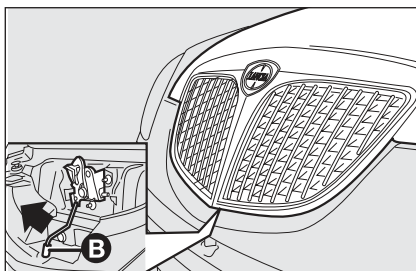

fig. 82
- move lever **B-fig. 82** leftwards as shown by the arrow;